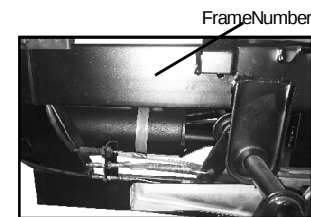

Figure 1
1. Frame Number is stamped on steering column case. The first two letters stand for. The following two numbers stand for displacement. And the next two numbers stand for year. The rest number stand for frame production serial number. (Figure 1)